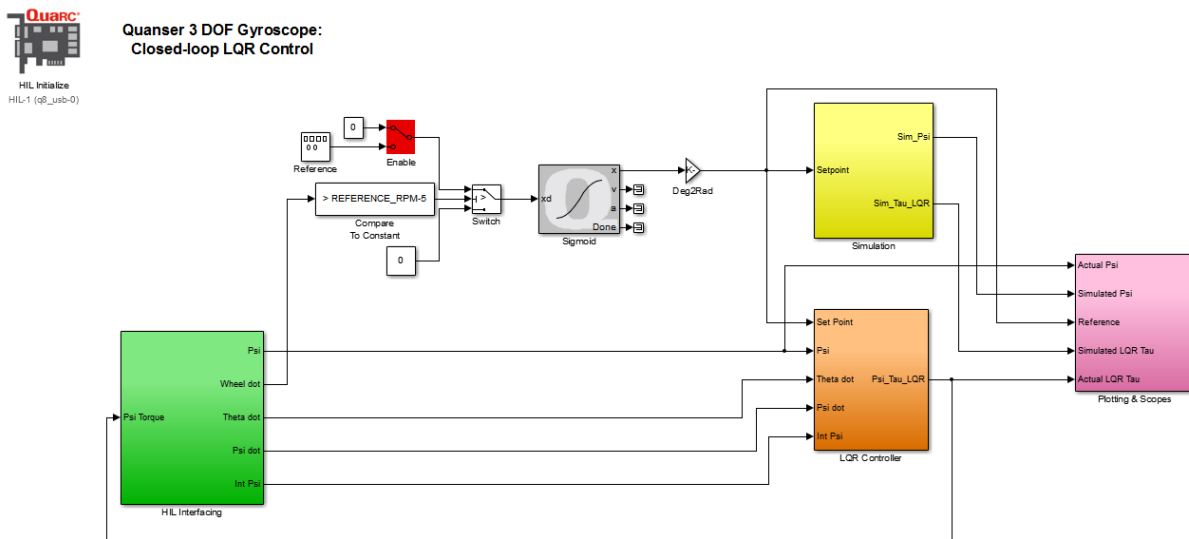

Figure 3.3: Simulink model used to run controller on the 3 DOF Gyroscope.
The `q_3dgyro_lqr` Simulink diagram shown in Figure 3.3 is used to perform the red gimbal position control on the 3 DOF Gyroscope. The *HIL Interfacing* subsystem contains drivers that interface with the DC motor and sensors of the 3 DOF Gyroscope system.
3. Open the `q_3dgyro_lqr.mdl` Simulink diagram, shown in Figure 3.3.